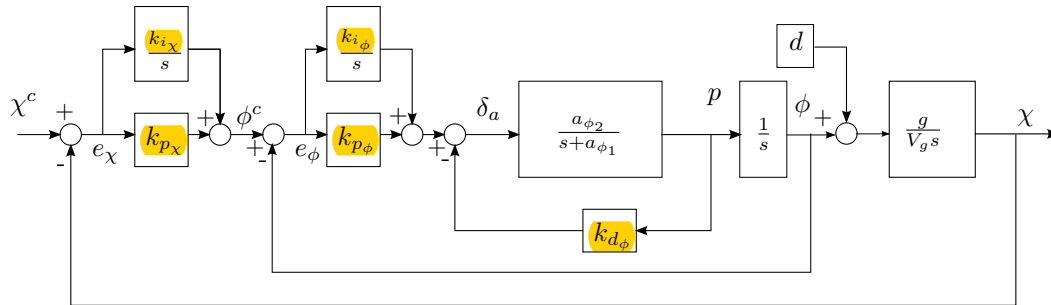

Figure 1: Successive loop closure for autopilot design.
Figure 1 shows the block diagram for a lateral autopilot using successive loop closure. The autopilot is based on a simplified version of the coordinated turn equation and a linearization of the roll dynamics from the book [1]. This represents an autopilot for course hold using aileron  $\delta_a$  as control input. The disturbance  $d$  in Figure 1 models a bias in the coordinated-turn equation, and should have a constant value of 2 degrees.
- Find numerical values for  $a_{\phi_1}$  and  $a_{\phi_2}$  based on the state-space model (1).
- Find numerical values for the five gains in Figure 1 associated with the lateral autopilot using successive loop closure. Use root-locus analysis to propose an interval where the integral gain in the roll loop ( $k_{i_\phi}$ ) should be chosen within in order to maintain system stability. Include a figure of the root-locus analysis in your report and remember to specify the input range for the gain somewhere in the figure (use both positive and negative gain values). Justify how you choose the design parameters in the course loop.
- d) Find the open-loop transfer functions from  $\phi^c$  to  $\phi$  ( $\frac{\phi}{\phi^c}(s)$ ) and  $\chi^c$  to  $\chi$  ( $\frac{\chi}{\chi^c}(s)$ ) (it can be achieved both on paper and in Matlab). The transfer functions should be based on Figure 1 and you cannot simplify the inner loop as a gain of 1 in this case. You can, however, neglect the disturbance. Present the transfer functions together in a bode plot and attach a figure in your report. Comment on the stability of the system. What happens with the stability of the system if the natural frequency of the course loop is designed with the same frequency as the roll loop? Attach a figure of the bode plot in this case as well.
- e) Present simulation results for the system in Figure 1 with course changing maneuvers: choose a series of steps (you may choose yourself the desired values). **Comment on the results and remember that you are simulating a simplification of the system dynamics (1).** You should not have larger steps than  $\pm 15$  degrees since we are working with a linearized model. Include figures of the course and the aileron input in the report.
- f) Present simulation results for course changing maneuvers (choose the same desired values as in Problem 2e) with the complete state-space model (1). Keep your control gains from Problem 2e). The aircraft model must be the complete state-space model, including the actuator dynamics, and the simplified version of the coordinated turn equation must be replaced by the real coordinated turn equation (4). Moreover, the system dynamics (1) should replace the simplified roll dynamics in Figure 1. Remember to add the bias  $d$  at the appropriate place. **Compare the results with the results obtained in Problem 2e). Would you say that the simplified model in Problem 2e) accurately reproduce the true dynamics?** Include figures of the course and aileron input in the report.